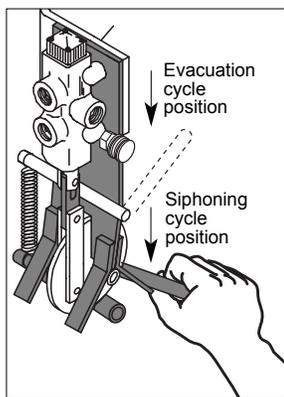

fig. 3
- Manually flip the reversing mechanism into the siphoning cycle position — fig. 3.